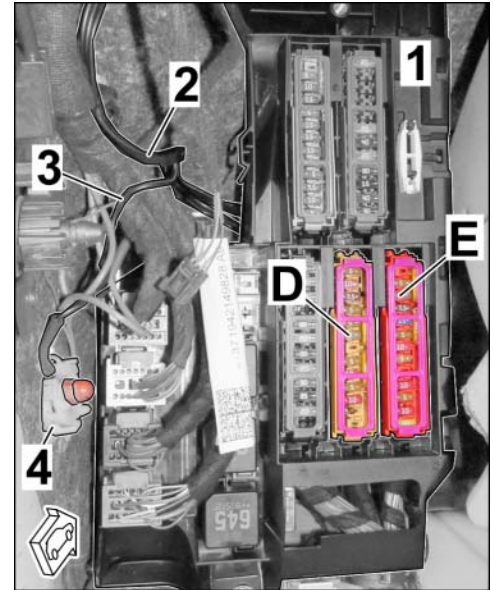

Figure 15
3.2.3 Connect power supply as shown in the table (⇒ *Figure 15*).
3.2.5 Protect the front camera power supply with new fuses (⇒ *Figure 15 -D6 and E3-*).
3.2.6 Route line BK; 0.5² (terminal 31) to the ground pin 13 (MB13 ⇒ *Figure 15 -4-*), shorten it and fit it on the ground pin using cable ring eyelet A6.